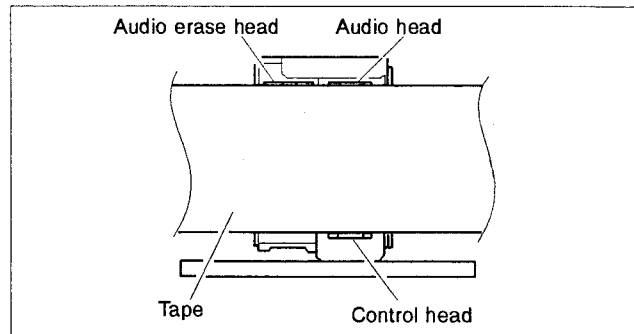

Fig. 2-7-3 A/C head height adjustment
- 2) Turn screws ①, ② and ③ by small and equal increments (about 45° at a time) to adjust the A/C head height for equal width can be seen, by both core area as shown in Fig. 2-7-3 (upper core of the audio erase head and bottom core of the control head).